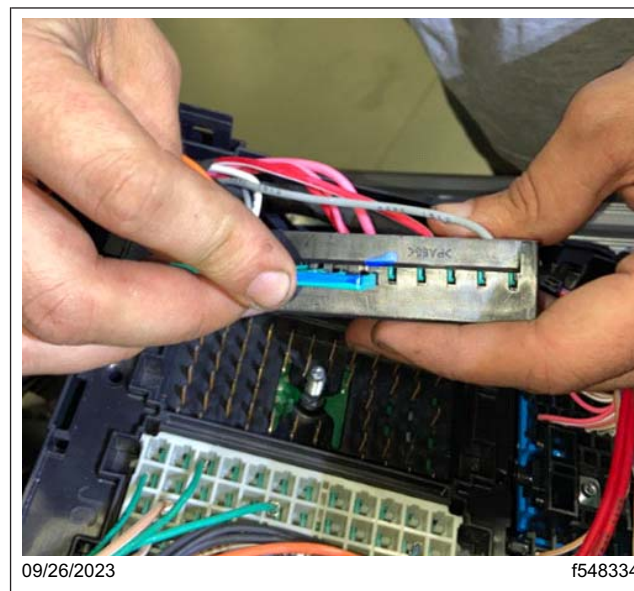

Fig. 66, Removing the Lock from the VPDM J7 Connector
- 14.3 Remove the lock from the lower portion of the VPDM J7 connector, as shown in Fig. 66.